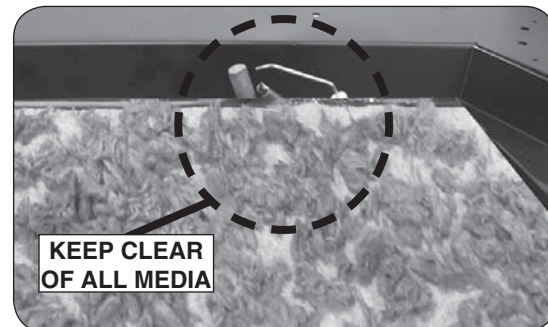

Fig. 19-2 Keep pilot clear
**KEEP LAVA GRANULES/COALS, SAND/VERMICULITE, EMBERS, AND ALL FOREIGN OBJECTS AWAY FROM THE PILOT ASSEMBLY, VALVE ASSEMBLY, AND HEAT SHIELD(S) DURING MEDIA PLACEMENT AND AT ALL TIMES. SEE FIG. 19-2 FOR PILOT DETAIL.**